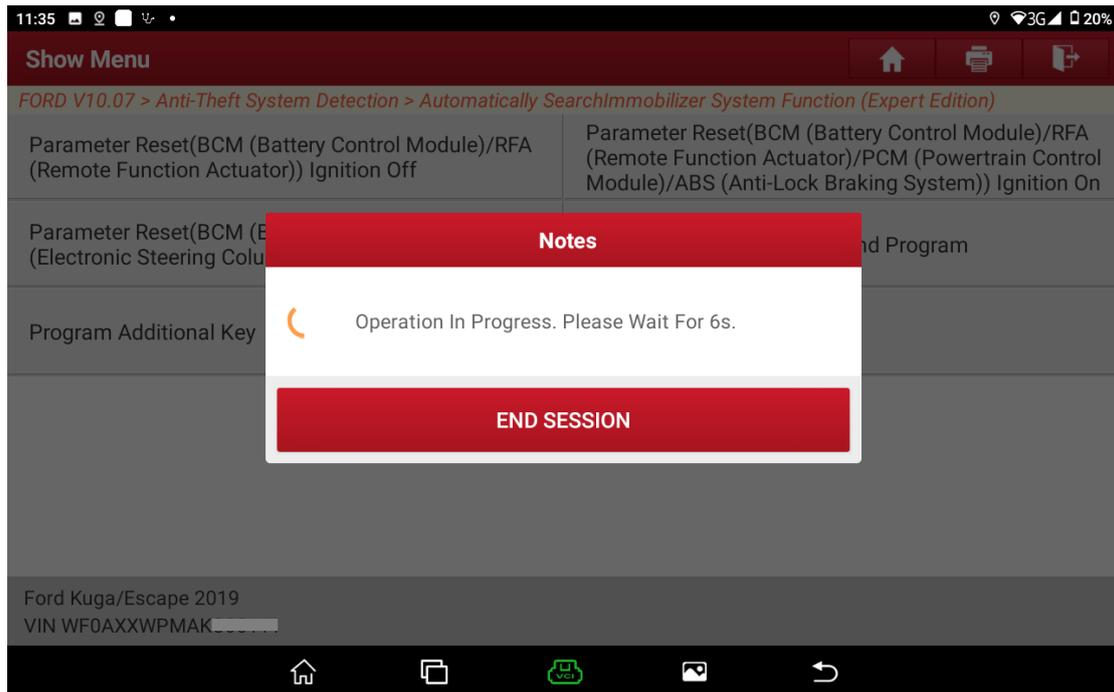

Figure 13
11. Prompt to wait for 6 seconds. See Figure 13.